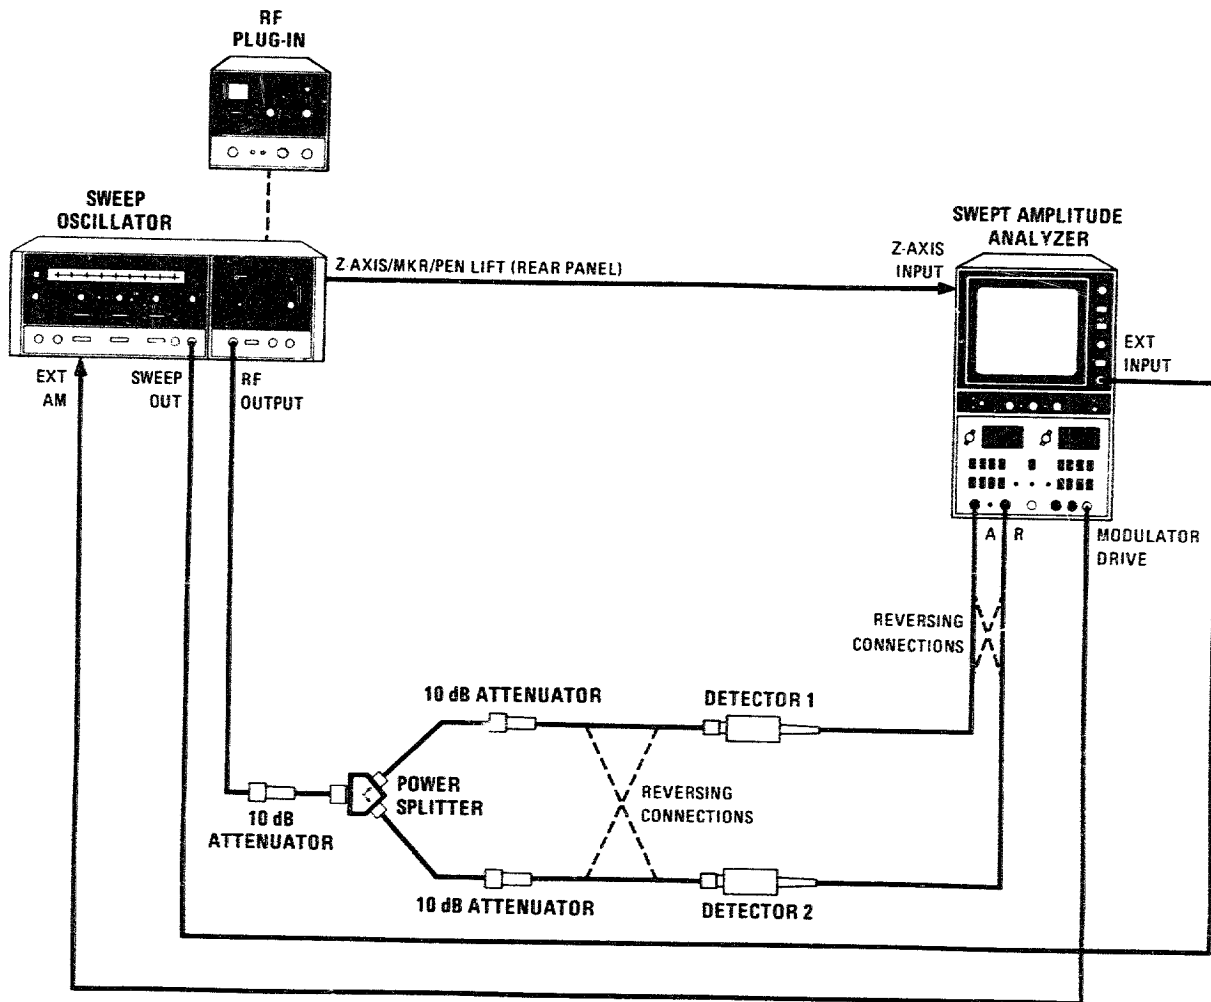

Figure 4-4. Tracking Test Setup
1. Connect equipment as shown in Figure 4-4. Install the 86222A RF plug-in for .01 to 2 GHz testing.